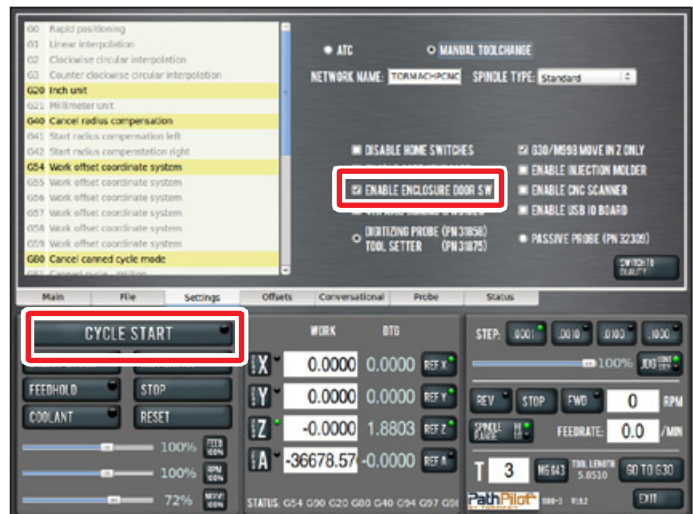

Figure 8
1. From the PathPilot interface, on the *Settings* tab, select the *Enable Enclosure Door SW* checkbox to activate Door Switch (see **Figure 8**).
NOTE: If, during a program, the doors are opened and then closed, the spindle RPM resumes. To resume axis motion, you must click *Cycle Start* (see **Figure 8**).